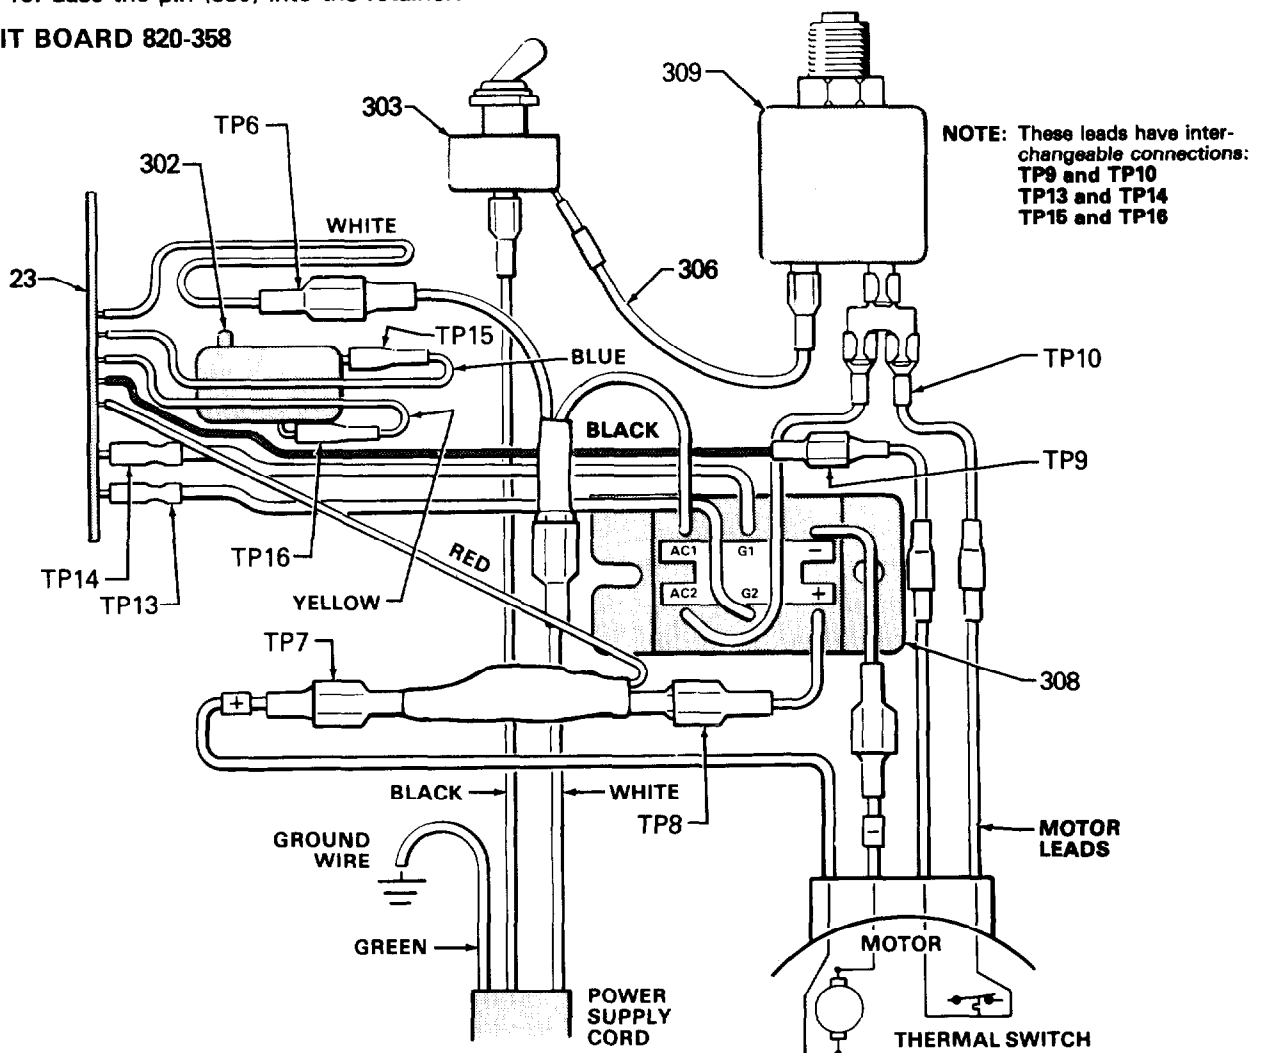

Fig 16
3. Disconnect **ALL** wires from the board, including the two heavy black wires. Refer to Fig 16. Pay close attention to where connections are made.
4. To remove the board from the box, pull out the black plastic-tipped pin (330). Push the *bottom* of the circuit board toward the wall of the box and carefully slide the board out.
5. Install the board in the box at the same angle as it was removed. Reconnect the wires as indicated in Fig 16. Ease the pin (330) into the retainer.
4. Remove the pressure control cover and screws (36,15), and disconnect the four motor leads at the appropriate terminals. See Fig 16, page 25.
6. Remove the conduit (22).
7. Use a 1/2" open end wrench to loosen and remove the pressure control mounting screws (44) washers (40) and nuts (41) located below the pressure control box. Remove the box.
8. Install the new pressure control assembly in the reverse order of disassembly. Be sure to reinstall the conduit seal (5-not shown) around the wires in the conduit elbow (345) at the pressure control to prevent motor contamination from entering the control box.